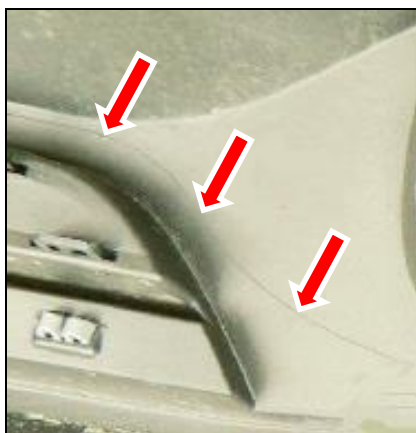

Figure 11
18. Along the inside of the rear bumper, Ford has a reference line on where to cut the bumper. Using a body saw, cut along Ford's reference line (**Figure 11**).